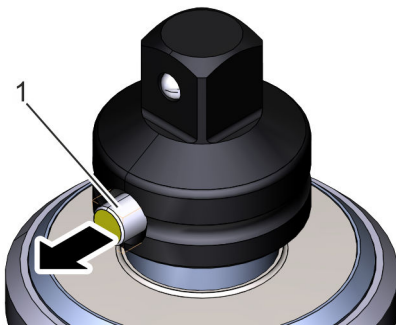

Fig. 19: Removing the shear pin
2. ➤ Remove the shear pin (Fig. 19/1). If necessary, use a punch tool to drive out the shear pin.